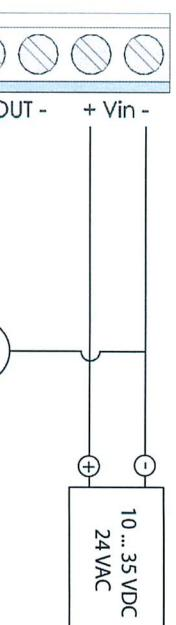

Figure 3 Wiring for 3-wire Output
**- 3-wire output:** see Figure 3. Provide the required supply voltage according to the output type: